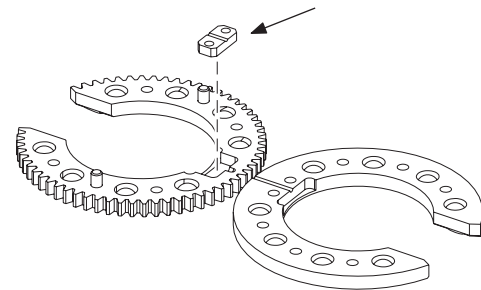

Figure 36 Removing the Electrode Clamping Plate
9. Remove the electrode clamping plate. Clean it with a fine-grit abrasive pad. See Figure 36.